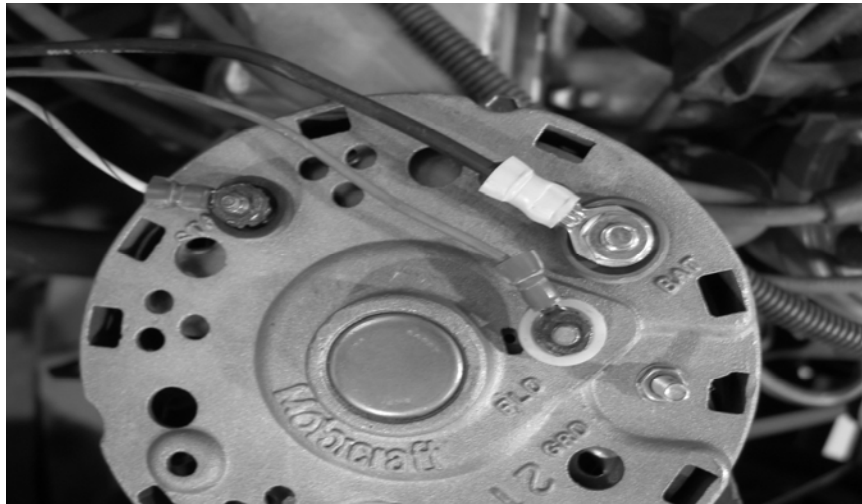
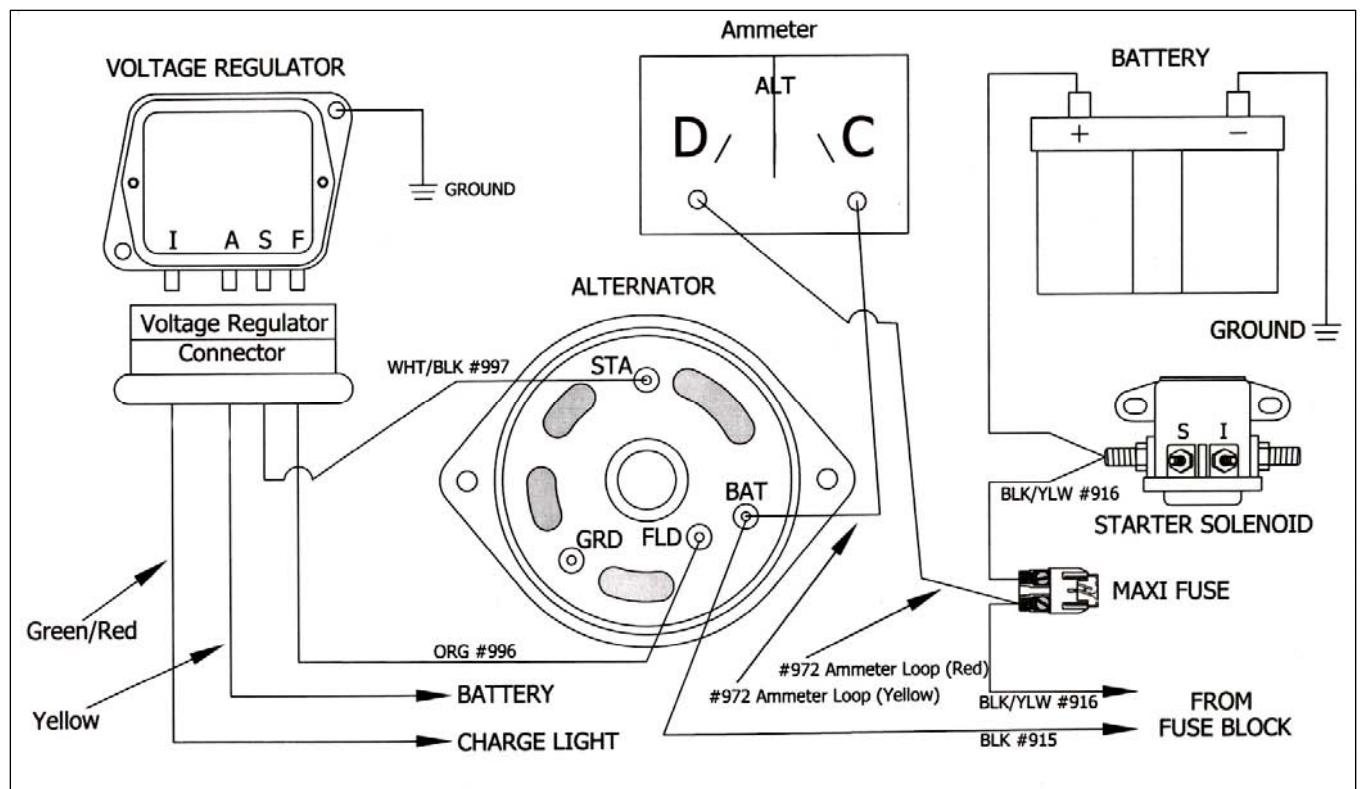

Figure 7-2 Alternator Connections '67-'77 Models
Figure 7-7 Alternator/Regulator/Solenoid Connections
- 7.1.1** Connect PASSENGER SIDE SECTION wire #915 (Blk) to the Alternator Output post marked "Bat". **See Figure 7-2. If the truck being rewired has an ammeter, it will be necessary to connect the #972 Red and #972 Yellow wires as illustrated in Figure 7-7 on page 14.**
- 7.1.2** Connect PASSENGER SIDE SECTION wire #996 (Org) to the Alternator post marked "FLD" for Field. Next connect wire #997 (Wht/Blk) to the Alternator post marked "STA" for Stator. **See Figure 7-2**
- 7.1.6** Using the provided ring terminals connect the PASSENGER SIDE SECTION black/yellow wire #916 to one side of Maxi Fuse Base. Using the remaining portion of wire #916 connect the other side of the Maxi Fuse Base to the Battery side of the starter solenoid. **See Figure 7-7.**